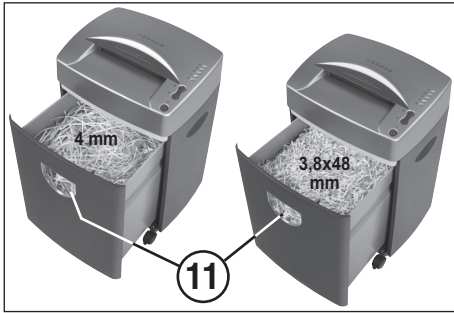

fig. 3
**RECEPTACLE FULL INDICATOR (Fig. 3)**
When the shredded material becomes visible in the “receptacle full” window (11) (fig. 3) it is time to empty the receptacle.
**EMPTYING THE RECEPTACLE (Fig. 3):**